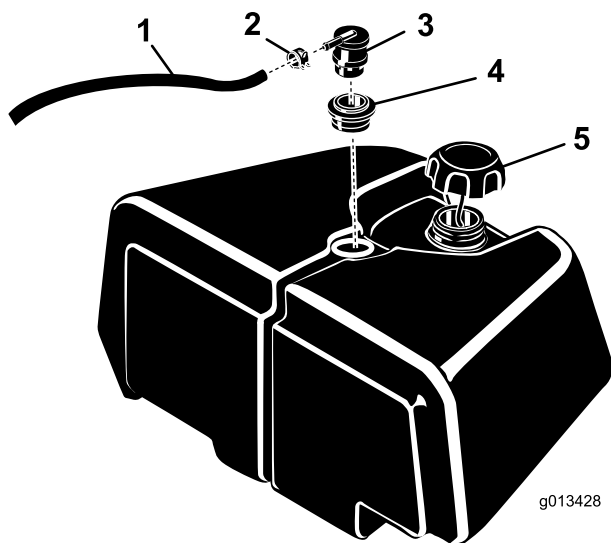

Figure 1
3. Clean the area around the fuel tank rollover valve so foreign matter cannot fall into the fuel tank when the valve and grommet are removed (Figure 1).
5. Remove the rollover valve and grommet from the fuel tank (Figure 1).
4. Loosen the hose clamp securing the hose to the rollover valve and disconnect the hose from the valve (Figure 1).